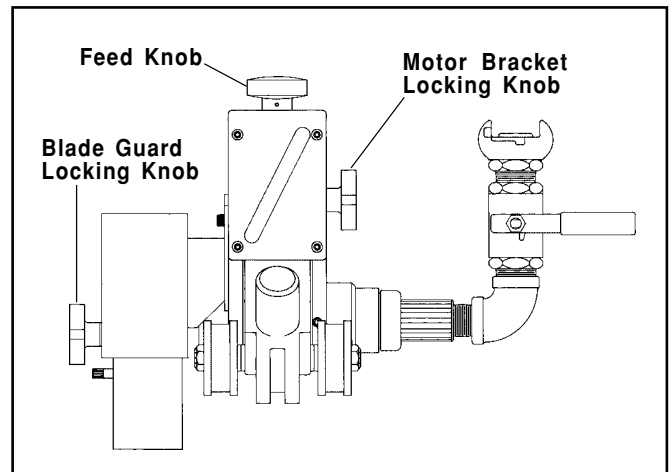

FIG. 4
1. Loosen motor bracket locking knob. (Fig. 4)
2. Retract motor bracket to uppermost position, by turning feed knob counter clockwise. (Fig. 4)
*Exception to this would be if the bevel cutter was being used for plastic, then the cutter would be engaged until the bevel cutter began cutting. At this point the depth gage pointer could be used to determine amount of bevel. Full engagement produces a 15/16" bevel. (Fig. 4)